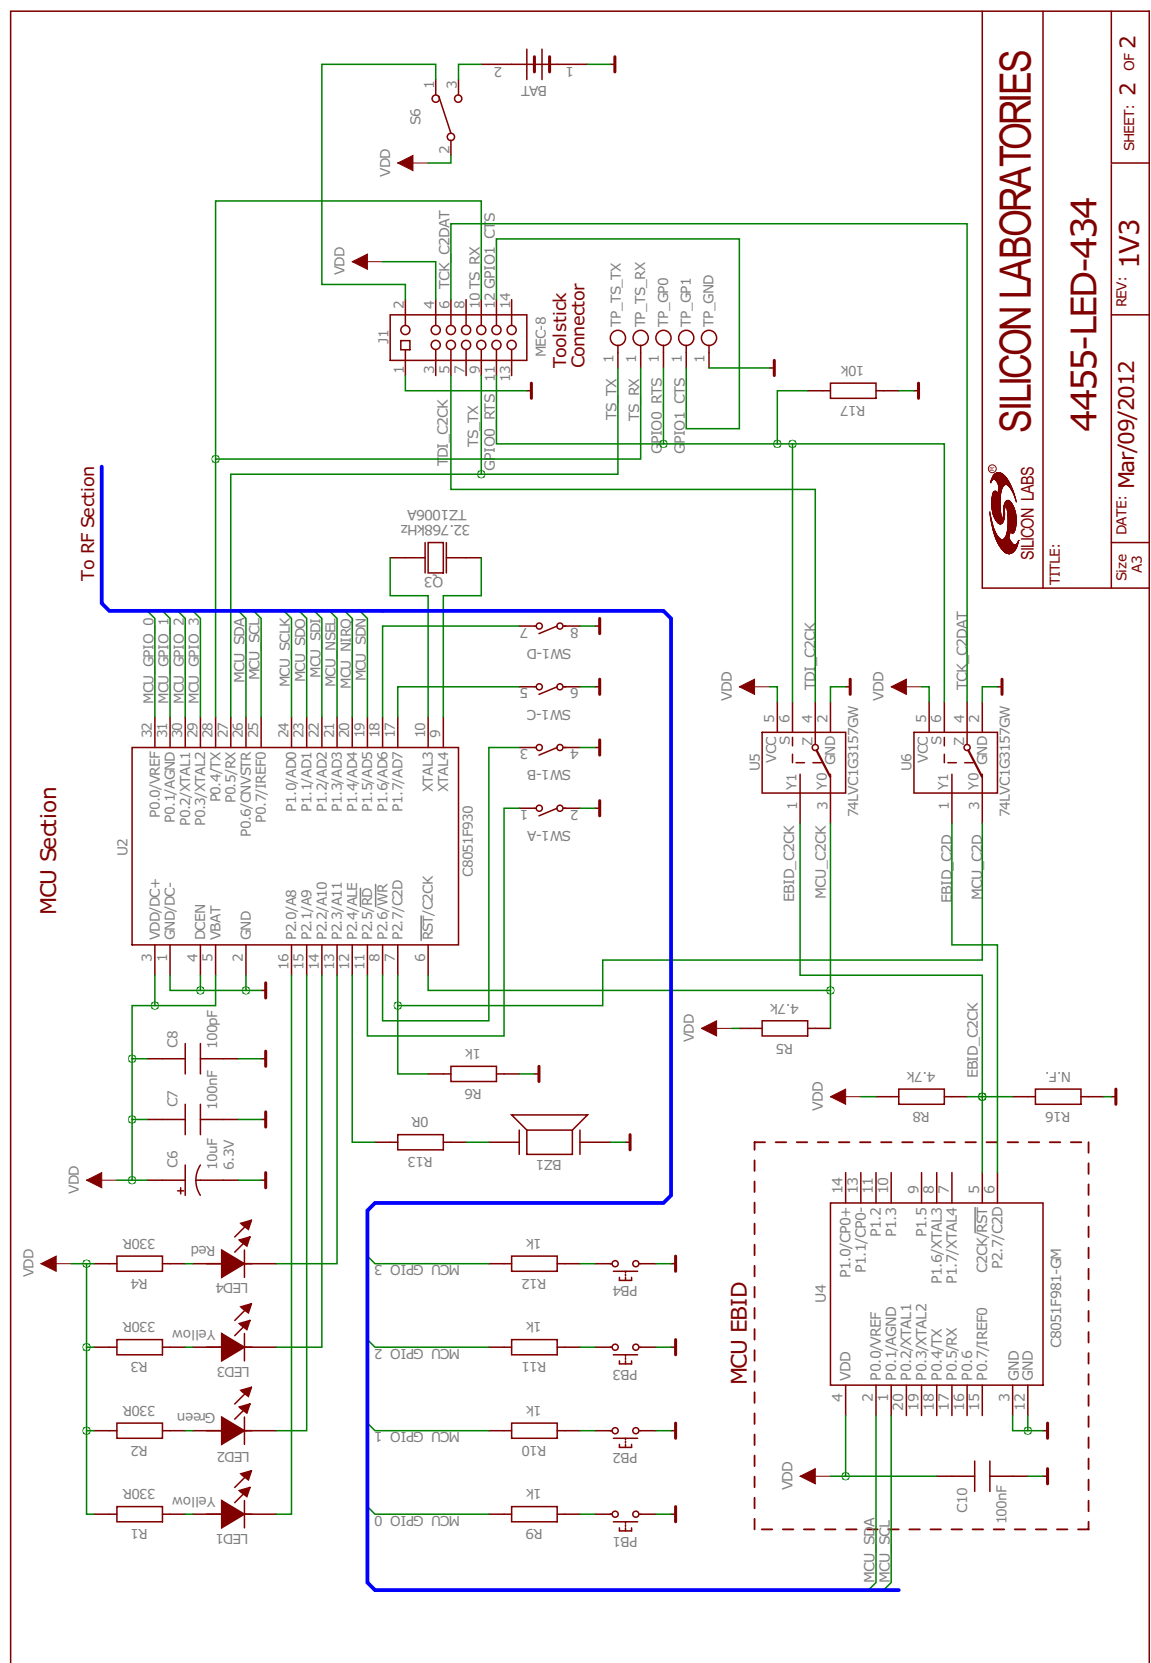

Figure 6. Si4455-LED-434 Schematic 2
- Changed Figure 6 from RF section to MCU section.